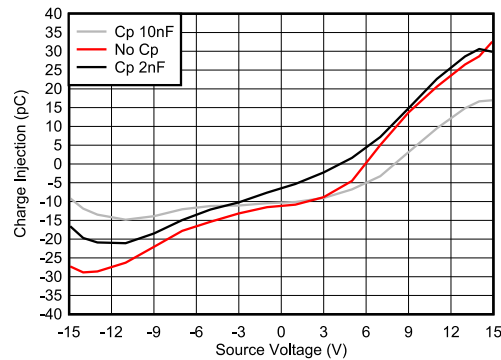

Figure 8-2. Charge Injection Compensation
The TMUX620x contain specialized architecture to reduce charge injection on the Drain (D). To further reduce charge injection in a sensitive application, a compensation capacitor ( $C_p$ ) can be added on the Source ( $S_x$ ). This will ensure that excess charge from the switch transition will be pushed into the compensation capacitor on the Source ( $S_x$ ) instead of the Drain (D). As a general rule of thumb,  $C_p$  should be 20x larger than the equivalent load capacitance on the Drain (D). Figure 8-2 shows charge injection variation with different compensation capacitors on the Source side. This plot was captured on the TMUX6219 as part of the TMUX62xx family with a 100pF load capacitance.